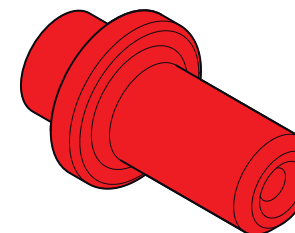

Fig.9
► Fig.9
If required, the cable must be replaced by the Dealer or its technical service or by a person with similar qualifications to prevent any risk. The cable must be replaced with one of equal characteristics and adequate for the power consumption of the unit. For its replacement refer to the ► Fig.9